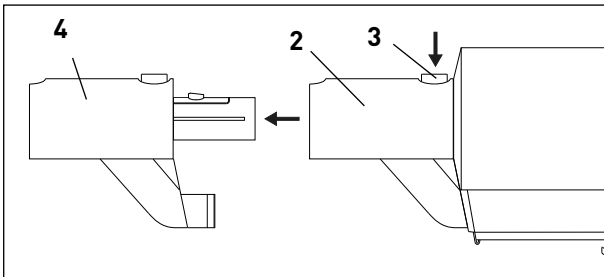

Figure 2
To release the adapter (figure 2), press the adapter release button (3) and pull adapter out.